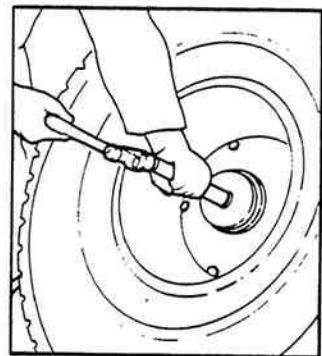

Figure 15-17. Driving Seal Into Bore.
11. Using either a 3-5 lb. (1.4-2.3 kg) hammer or slide-hammer, drive the seal into the bore until it bottoms out. See figure 15-17.
11. Using either a 3-5 lb. (1.4-2.3 Kg) hammer or slide-hammer, drive the seal into the bore until it bottoms (figure 15-17).